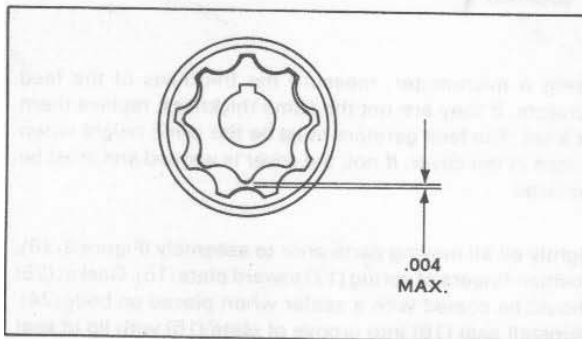

Figure 3-29. Gerotor Wear Limits
Inspect both gerotor sets, (13) and (20). Each set is made up of an inner and an outer piece. Mesh the two pieces together as shown in Figure 3-29 and check for wear using a feeler gauge. The maximum wear limit is .004 in.